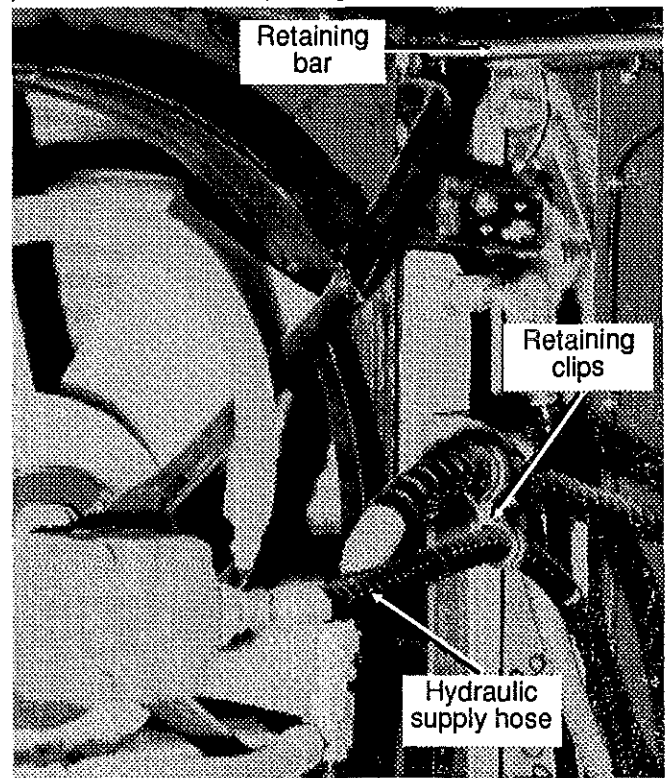

FIG. 1
5. From inside the first baggage compartment, remove the six (6) retaining screws of the engine front access panel, then the access panel.
8. Open the condenser door to its maximum position, push the retaining bar upwards in order to free its locking mechanism, then open further condenser door and block in position (see fig. 1).
9. Disconnect the hydraulic supply hose from the condenser motor, then unscrew the fasteners on retaining clips in order to separate the hoses (see fig. 1).